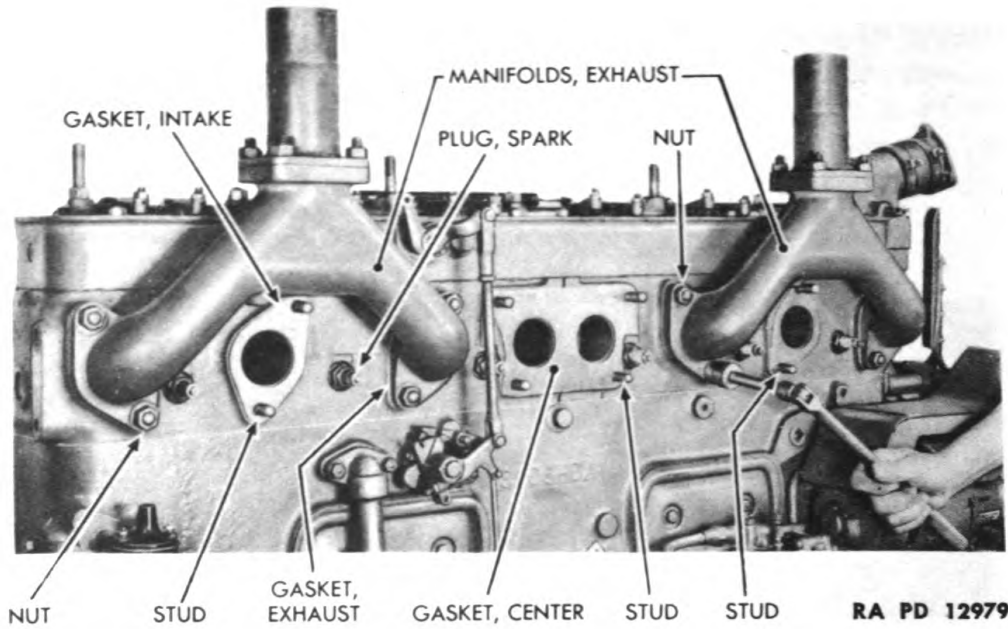

Figure 186—Exhaust Manifold Installation
b. Procedure (fig. 186). Install six spark plugs in right side of cylinder heads.
188. INTAKE AND EXHAUST MANIFOLD INSTALLATION (fig. 186).